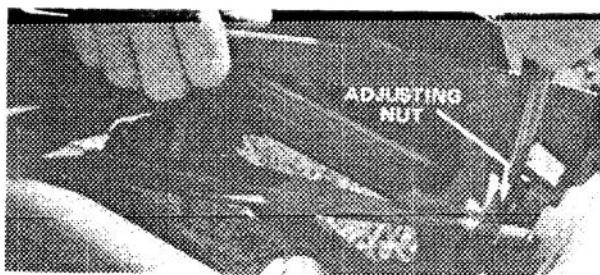

Figure 45
31. Loosen socket head set screws in reel bearing adjusting nuts with a 7/32" Allen wrench (Fig. 44). In small increments, rotate the adjusting nut (Fig. 45) in normal direction that reel turns to remove all end play from the reel. Make sure to hold reel so it cannot rotate (Fig. 45).
NOTE: Insert punch and try to turn adjusting nut after set screws are tightened (Fig. 45). If nut can be turned, remove set screws, lubricate screws with oil, and reinstall them tightly — 150 in.-lb (16.9 N·m).